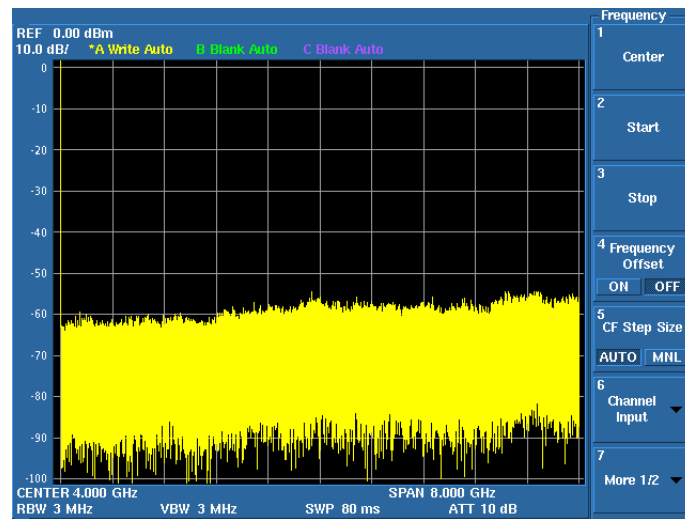

Figure 3-6 Initial Screen
- The result of the self-diagnostics and the initial screen are displayed. The initial screen display may differ from Figure 3-6 depending on the status of the settings when the power supply was last turned off.